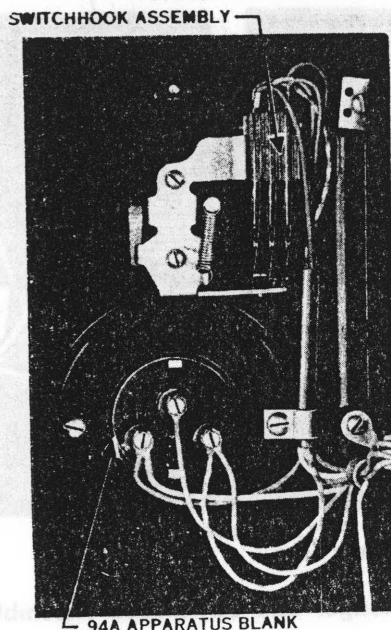

Fig. 10 — Switchhook Assembly and 94A Apparatus Blank
3.03 The switchhook assembly for the 354-type telephone is shown in Fig. 10.
3.08 The 94A (Fig. 10) replaces the 82A apparatus blank (Fig. 15) in the 300 series telephone sets.